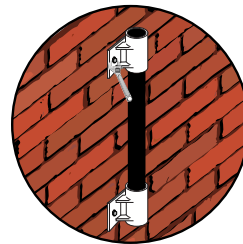

Fig 3.
- 3, Centralise the top bracket vertically above the bottom bracket with the top edge of the bracket level with the top edge of the socket. Drill and fix into position. (see Fig 3).